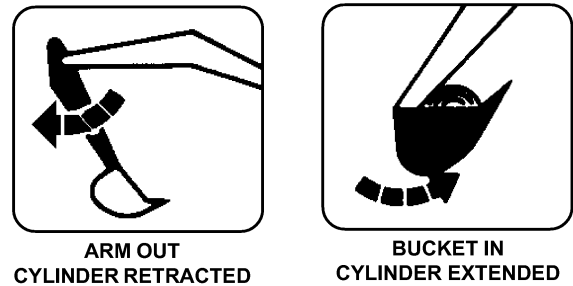

FIGURE 4.9
2. Operate the Bucket In Control until bucket is completely in (extending cylinder). See Figure 4.9.
3. Operate the Arm Out Control until the arm is completely out (retracting cylinder). See Figure 4.9.